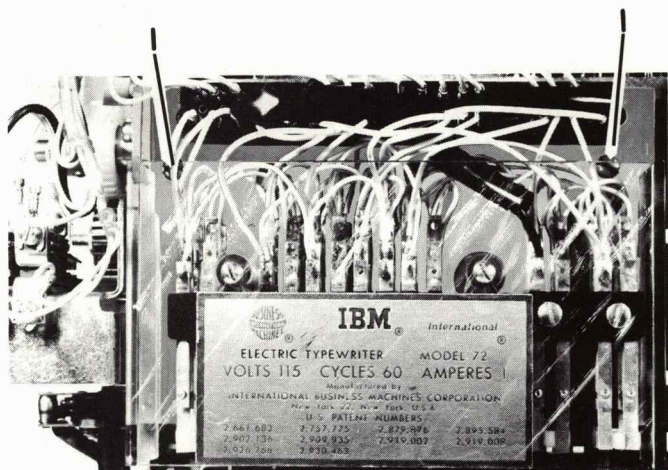

FIGURE 12. Rotate Spring Replacement
- \* 4. Remove the two screws (#1, Figure 12) that hold the contact plate to the frame. Remove the contact assembly, holding it to the front with a rubber band.
3. Remove the two screws (#1, Figure 12) that hold the print contact plate to the frame. Remove the contact assembly, holding it to the front with a rubber band.